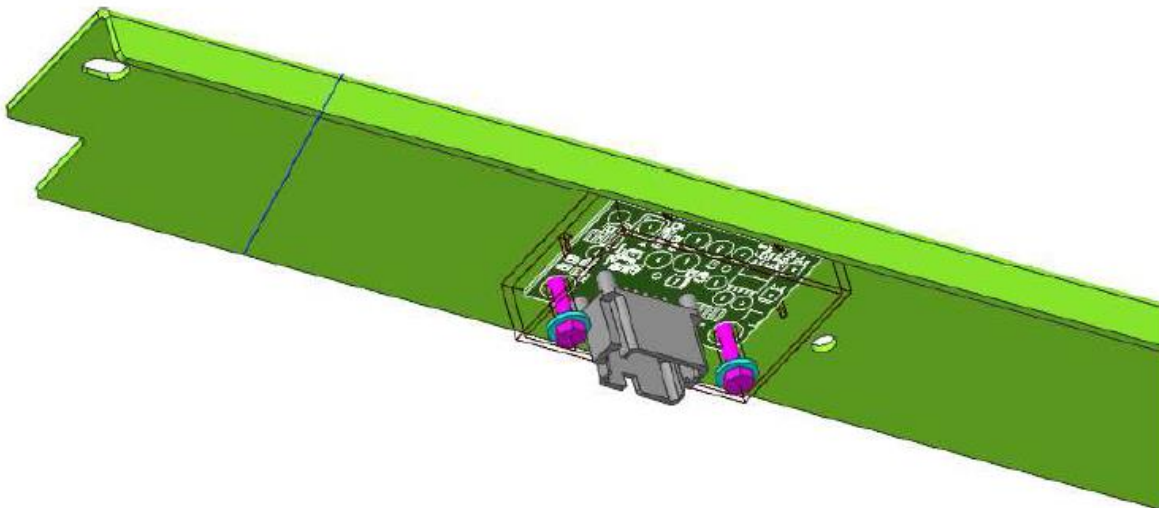

Figure 4 - Power Supply Mounting
- Using the supplied M6 nuts and bolts, mount the power supply to the interior of the harness cover [Figure 4]